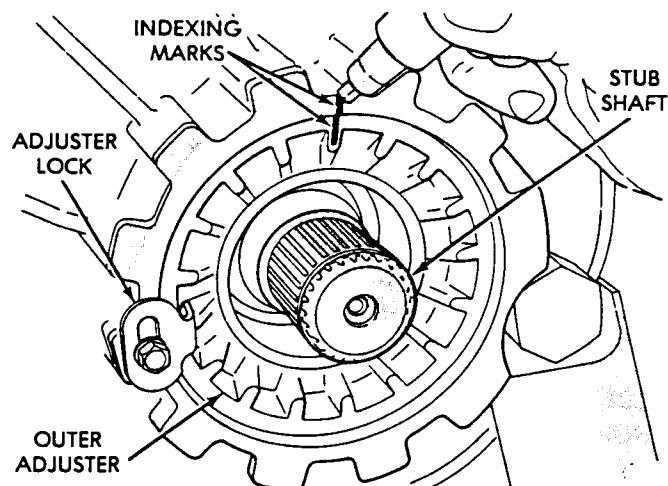

Fig. 4 Indexing Outer Adjuster
(1) Place vehicle in neutral and lift vehicle on hoist.
(2) Remove short drive shaft.
(3) Index the outer adjuster (Fig. 4).